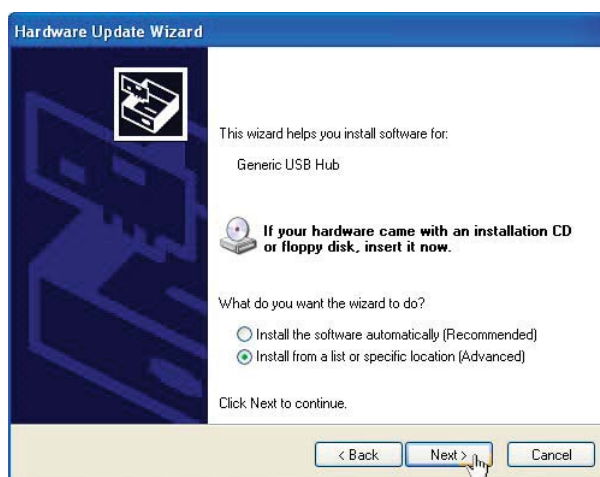

Fig. 57—Hardware Update Wizard
6. Right-click the item with a yellow flag (EFA400) and select **Update Driver**. (If you double click the item, the **Properties** dialog box displays, and you can choose the **Drivers** tab. Click the **Update Driver** button.) The Hardware Update Wizard appears (Fig. 57).